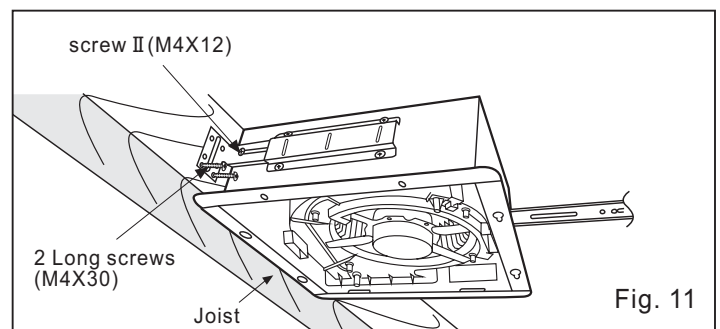

Fig. 11
7. Secure the suspension bracket to joists by using long screws(M4X30) and secure it to fan body by using screw II(M4X12) in vertical direction. (Fig.11)
6. Secure the fan body to joists by using long screw(M4X30). (Fig.11)